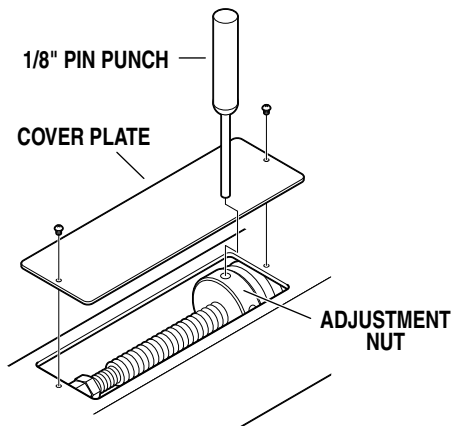

Figure 21
a. Check the vertical tension adjustment of the Height Adjustable Arm for its capacity to support the flatscreen monitor throughout its range of motion. The monitor should move freely yet maintain its selected position without drifting. If an adjustment is necessary, refer to figure 21 and proceed as follows: